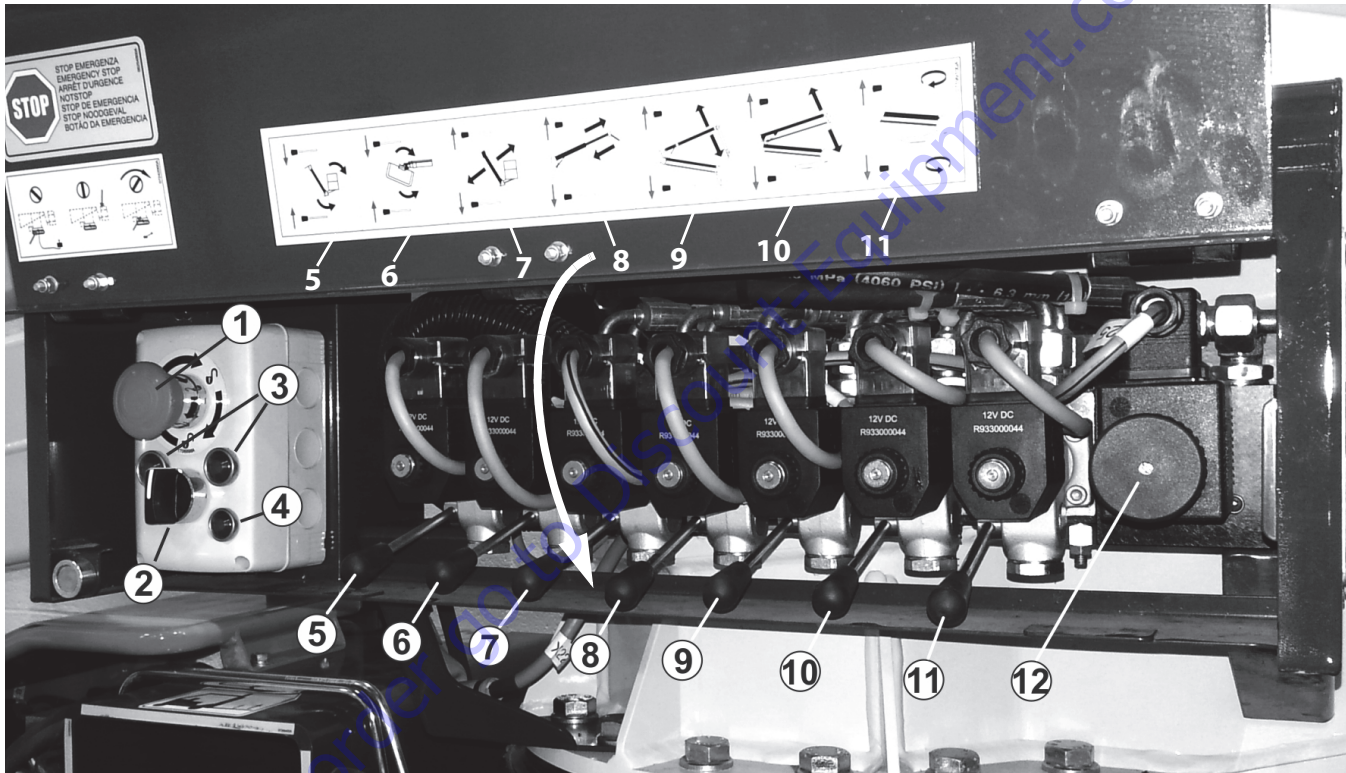

Figure 5-3. Ground Control Station - Boom Control Valve - with Enable Knob
(See Figure 5-2. or Figure 5-3.)
1. Open the cover on the Ground Control Station (see *Figure 5-2. or Figure 5-3.*), located on the hydraulic tank side of the machine.
- a. **Depress the enable valve lever/button** (*Figure 5-2. or Figure 5-3.*).
**NOTE:** *All of the following functions require the enable button (*Figure 5-2. or Figure 5-3.*) to be depressed while pumping the hydraulic hand pump and operating the function lever.*
With the aid of an assistant, while pumping the hand pump, activate the telescope function lever (*Figure 5-2. or Figure 5-3.*) at the ground controls, to retract the main boom.
While pumping the hand pump, activate the jib lift function lever (*Figure 5-2. or Figure 5-3.*) in the appropriate direction to lower the jib.
While pumping the handpump, activate the tower boom lift function lever (*Figure 5-2. or Figure 5-3.*) in the appropriate direction to lower the tower boom.
With the aid of an assistant, activate the main boom lift function lever (*Figure 5-2. or Figure 5-3.*) in the appropriate direction to lower the main boom.
Activate the appropriate platform rotate function lever (*Figure 5-2. or Figure 5-3.*) to rotate the platform.
Activate the appropriate platform level function lever (*Figure 5-2. or Figure 5-3.*) to level the platform.